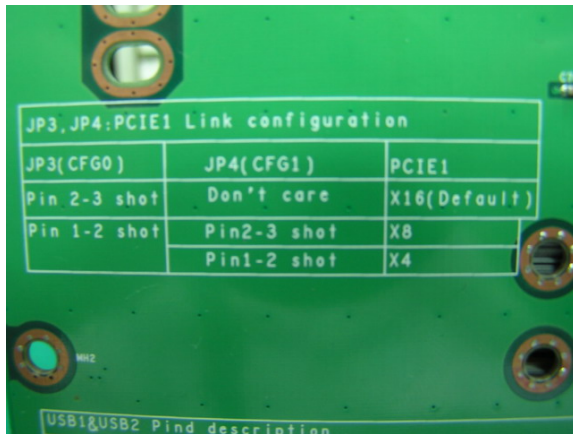
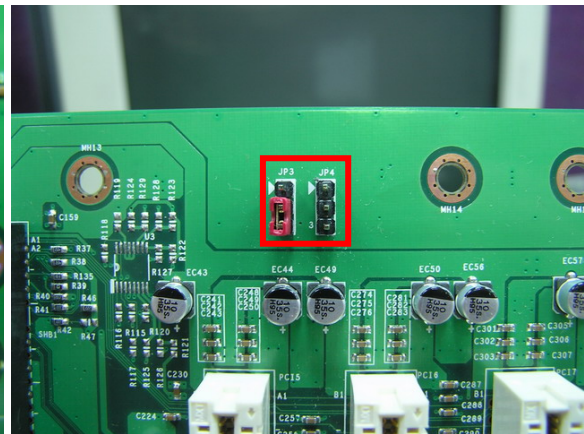

Fig. 4
Fig. 5
**JP3** and **JP4** configure the PCIE 1 Link configuration (x4, x8 and x16) as Fig. 4 shown. By default, the factory setting as this is the standard link configuration (x16) as Fig. 5 shown.